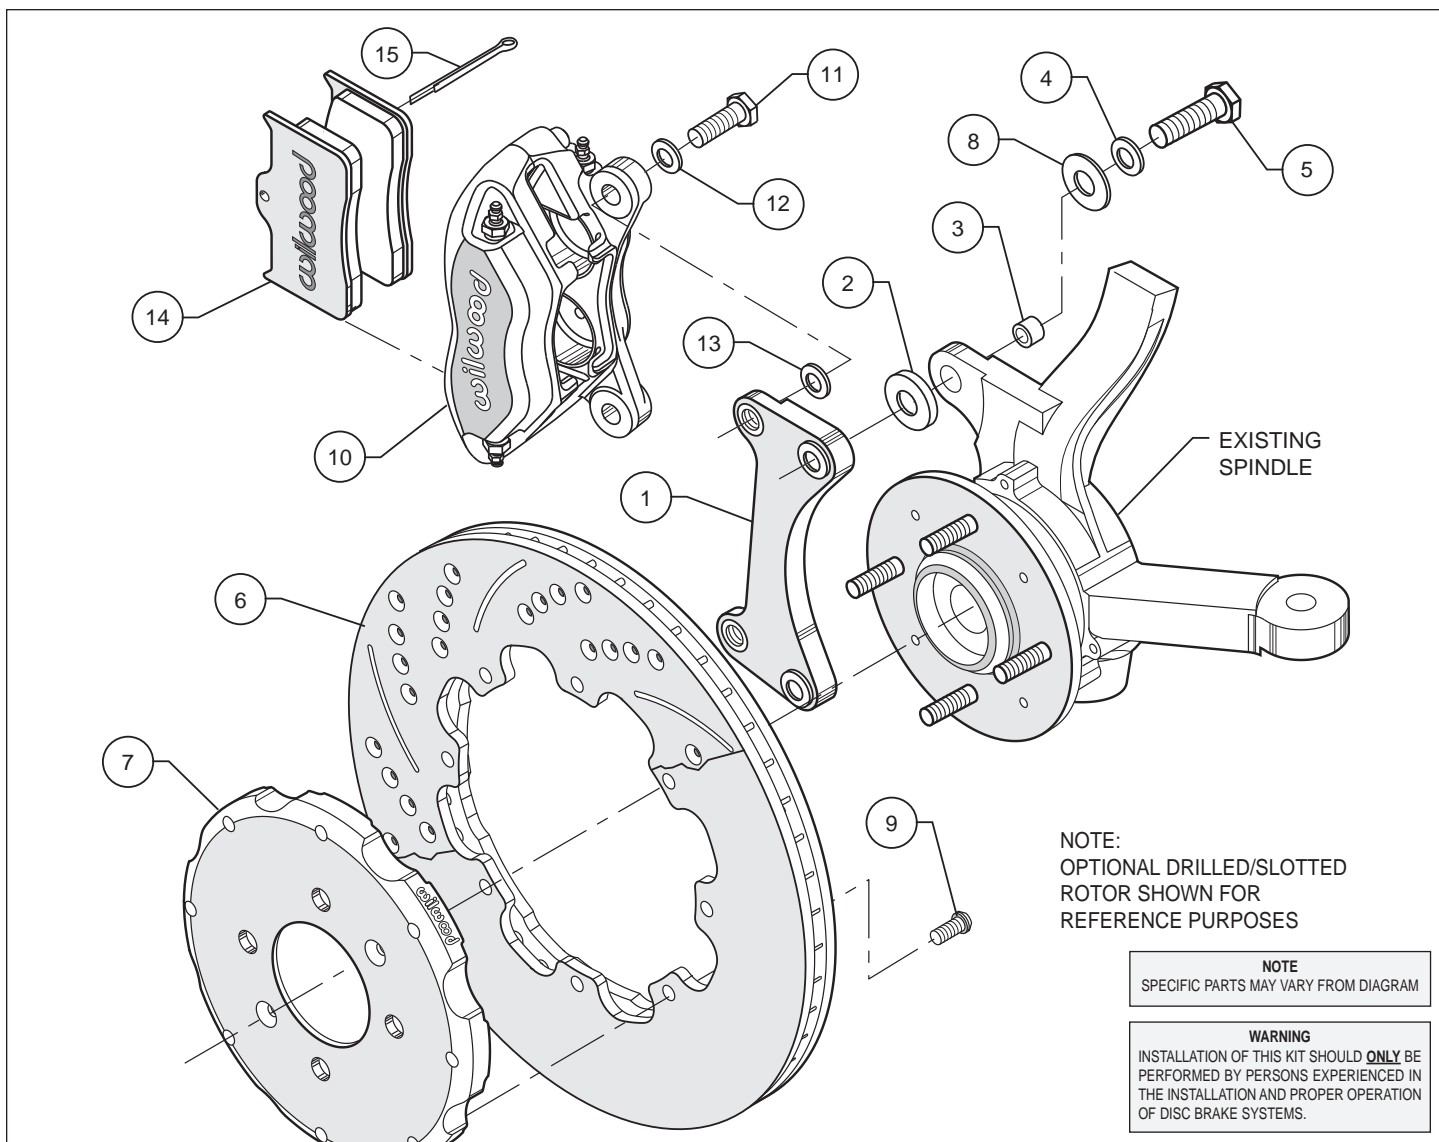

Figure 1. Typical Installation Configuration, Left Hand Application Shown
- Insert one sleeve (3) each into the holes on the top and bottom of the spindle "ears" where the OEM caliper bracket was removed. Apply red *Loctite*® 271 to the mounting bolt threads (5) before installation of the caliper mounting bracket (1). Install the bracket with the flanged heads of the clinch nuts facing outboard, as shown in Figure 1. Slide bolt (5) through washer (4) and shim (8) into the previously installed sleeve (3) from the backside of the spindle. Position .125 thick spacer (2) between the spindle and the bracket. Torque bolts to 60 ft-lb.
- With the larger I.D. side of the rotor (6) facing away from the hat (7), attach rotor (6) to hat (7) using bolts (9) as shown in Figure 1. Using an alternating sequence, remove bolts (9) one at a time, apply red *Loctite*® 271 to the threads, and torque to 25 ft-lb.